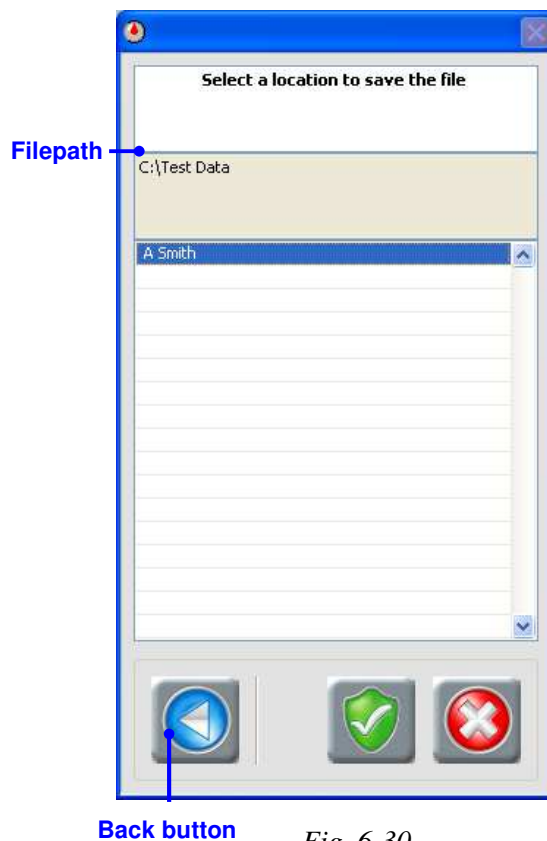

Fig. 6-30
- In the window that appears (Fig. 6-30), choose a location for saving the file.